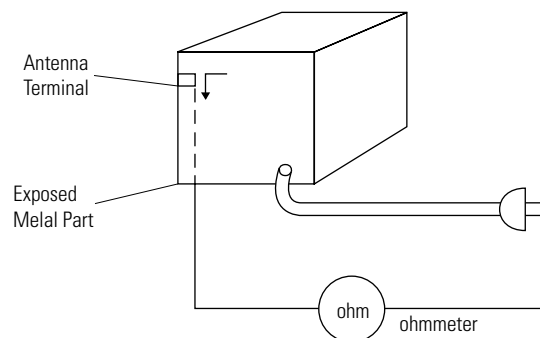

Fig. 1-2 Insulation Resistance Test
(4) Insulation Resistance Test Cold Check-(1) Unplug the power supply cord and connect a jumper wire between the two prongs of the plug. (2) Turn on the power switch of the instrument. (3) Measure the resistance with an ohmmeter between the jumpered AC plug and all exposed metallic cabinet parts on the instrument, such as screwheads, antenna, control shafts, handle brackets, etc. When an exposed metallic part has a return path to the chassis, the reading should be between 1 and 5.2 megohm. When there is no return path to the chassis, the reading must be infinite. If the reading is not within the limits specified, there is the possibility of a shock hazard, and the instrument must be re-pared and rechecked before it is returned to the customer. See Fig. 1-2.